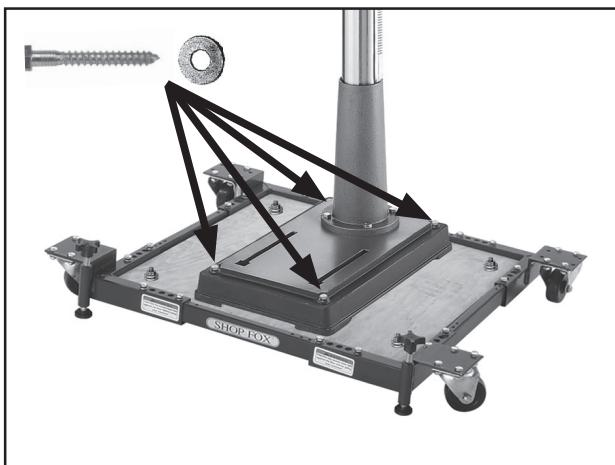

Figure 18. Drill press mounted on mobile base, using a base plate for support.
If you must use a mobile base, **ALWAYS** mount your drill press to a base plate inside of the mobile base, as shown in **Figure 18**.
9. Mount the drill press to the base plate with lag bolts and flat washers (**Figure 18**); or with through bolts, flat washers, and hex nuts.